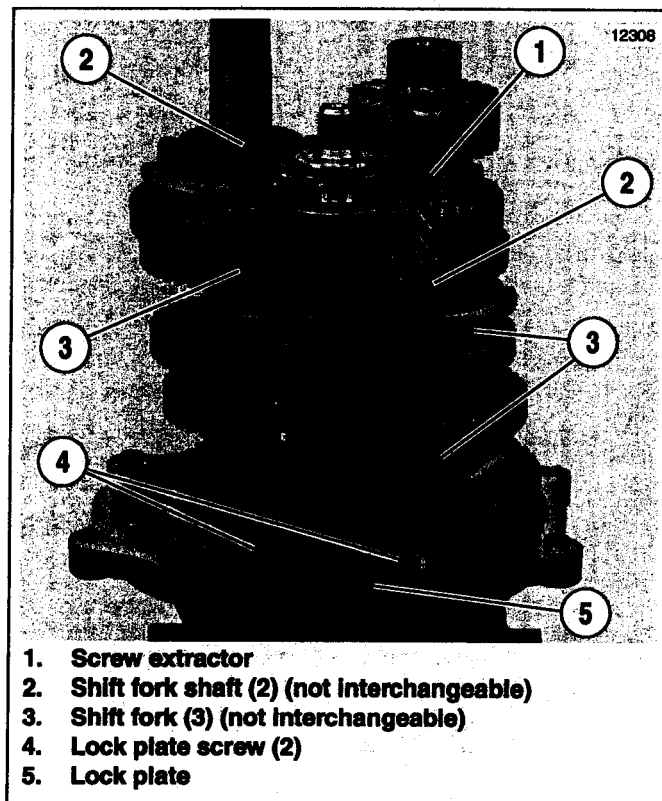

Figure 9. Transmission Gear Assembly with Shift Forks and Shift Cam
20. See Figure 9. With access door on end (shafts pointing upward), remove shift fork shafts (2) using screw extractor—not flute design (1). Shafts have slight interference fit. Shafts can be reused; do not damage end of shaft. Do not remove shift forks from shift fork shafts. Remove each shaft and shift fork(s) as a unit.
21. Remove two screws (4) and lock plate (5). Discard screws.
4. See Figure 9. Install lock plate (5) and new lock plate screws (4) (Part No. 35259-06 from recall parts kit) into transmission bearing housing. Tighten screws to 50-70 In-lbs (5.7-7.9 Nm).